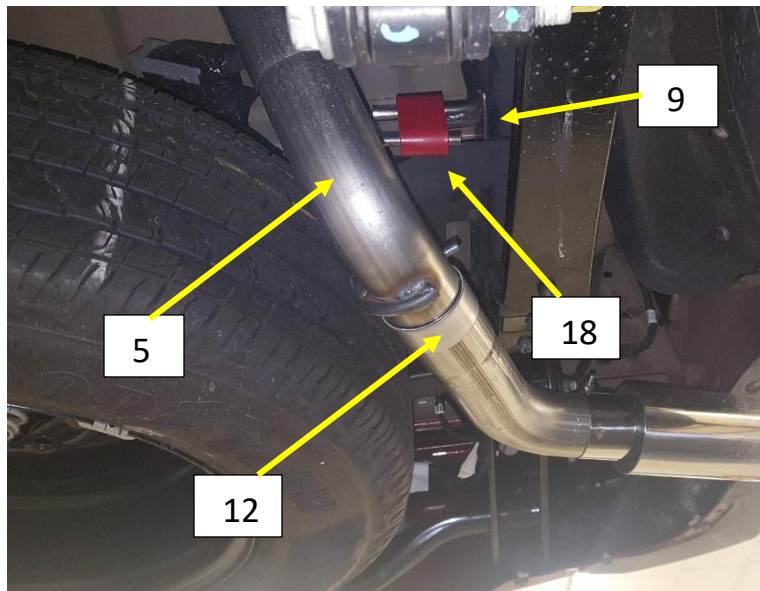

Figure. 14
18. Install the tail pipe rear hanger rod into the Isolator at the frame hanger (9) Fig.14